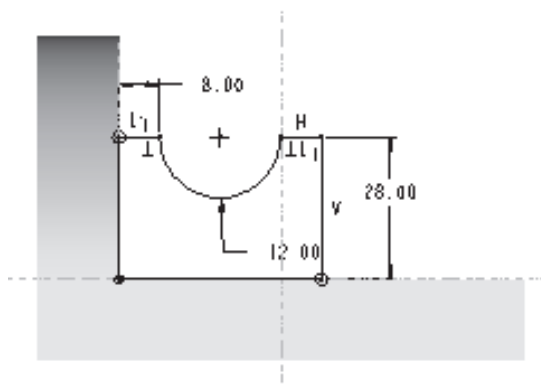

Figure 4-72 Sketch with dimensions and constraints
1. Draw the section sketch using various sketcher tools as shown in Figure 4-72.
2. Since the **Intent Manager** is on by default, the sketch is dimensioned automatically and some weak dimensions are assigned to it. Add the required constraints and modify the weak dimensions to the dimensions shown in Figure 4-72.